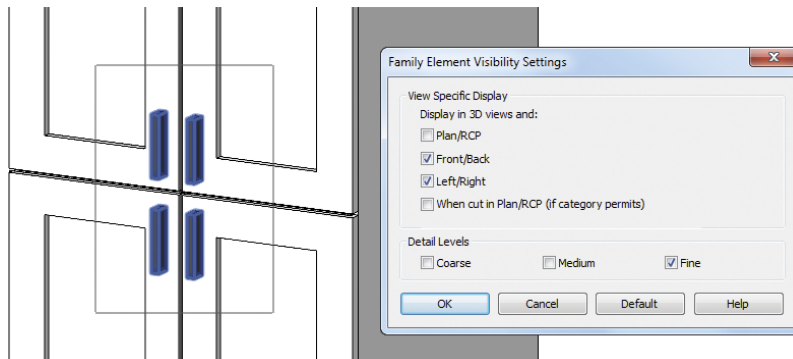

FIGURE 6.10 Window selection and filter
7. Click the Visibility Settings button on the Modify tab of the ribbon and uncheck Coarse. Click OK to return to the model. Next, you want to select just the lines around the hardware extrusions. From the same 3D view window, select around the hardware and use the Filter tool again to select just Lines (Casework). Open the Family Element Visibility Settings dialog again and also uncheck Medium so only Fine is checked (Figure 6.10).